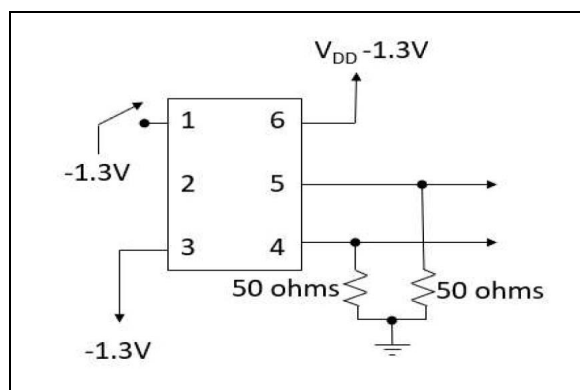
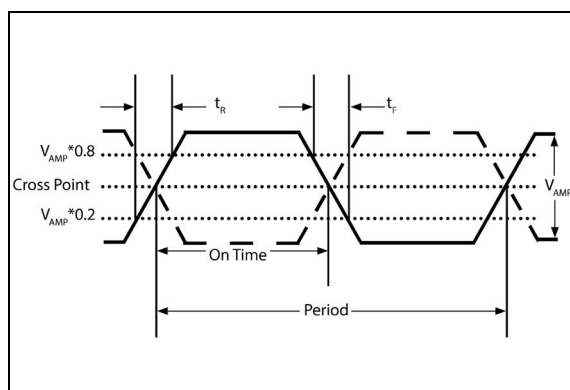
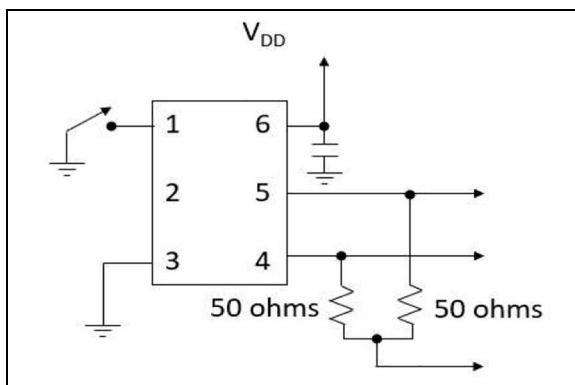

FIGURE 1-1: Test Circuit.
FIGURE 1-2: Output Rise/Fall Time.
FIGURE 1-3: LVDS Test Circuit.
3: Figure 1-1 defines the test circuit and Figure 1-2 defines these parameters.
- Note 3:** Figure 1-1 defines the test circuit and Figure 1-2 defines these parameters.
- Note 3:** Figure 1-3 defines the test circuit and Figure 1-2 defines these parameters.